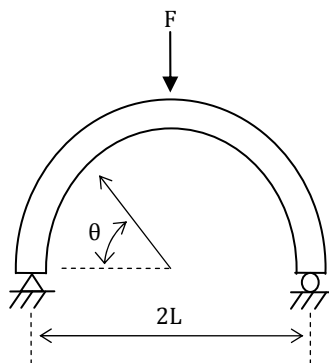

Fig. 2. A half-circular arch structure
- (15 pt.) As shown in Fig. 2, a half-circular arch structure is subjected to a load  $F$  at the center. Draw AFD (Axial Force Diagram), SFD (Shear Force Diagram) and BMD (Bending Moment Diagram).